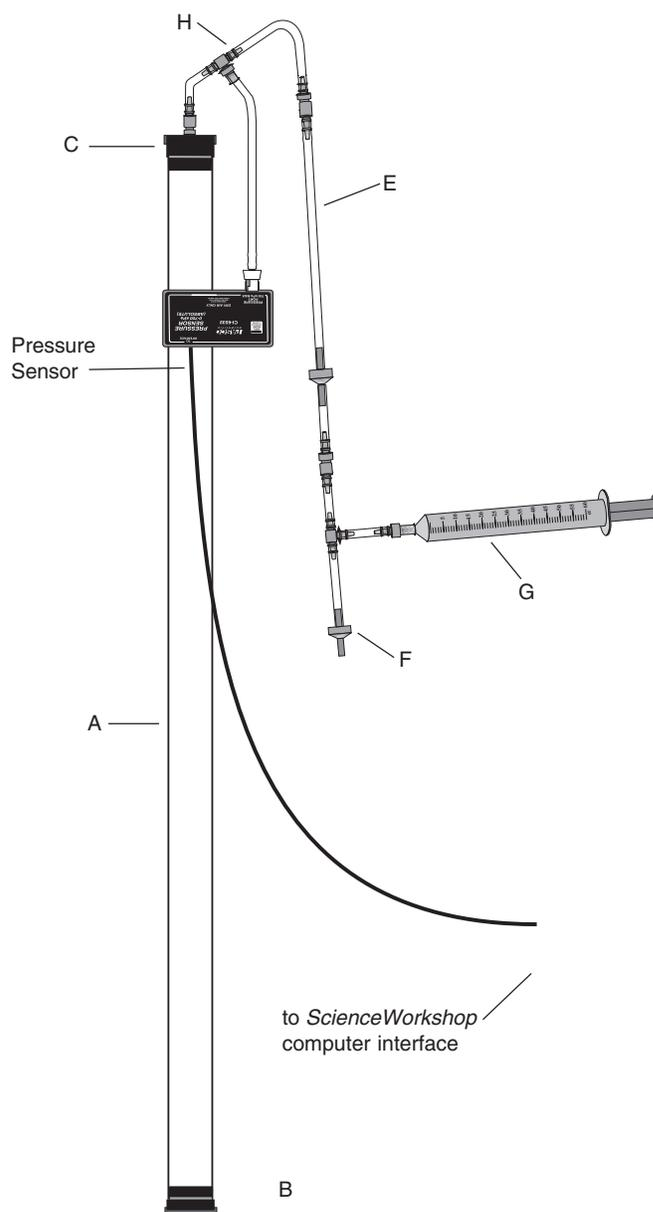

Figure 7
1. Connect part H to the hose connector on part A (Figure 7).